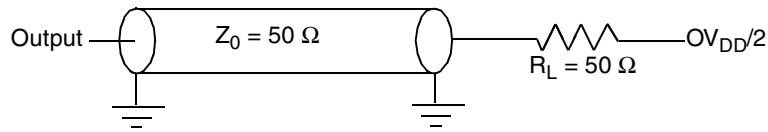

Figure 31. AC Test Load for the JTAG Interface
- All outputs are measured from the midpoint voltage of the falling/rising edge of t_{TCLK} to the midpoint of the signal in question. The output timings are measured at the pins. All output timings assume a purely resistive 50-Ω load (see Figure 31). Time-of-flight delays must be added for trace lengths, vias, and connectors in the system.
- The symbols used for timing specifications herein follow the pattern of t_{(first two letters of functional block)(signal)(state)} (reference)(state) for inputs and t_{(first two letters of functional block)(reference)(state)(signal)(state)} for outputs. For example, t_{JTDVKH} symbolizes JTAG device timing (JT) with respect to the time data input signals (D) reaching the valid state (V) relative to the t_{JTG} clock reference (K) going to the high (H) state or setup time. Also, t_{JTDXKH} symbolizes JTAG timing (JT) with respect to the time data input signals (D) went invalid (X) relative to the t_{JTG} clock reference (K) going to the high (H) state. Note that, in general, the clock reference symbol representation is based on three letters representing the clock of a particular functional. For rise and fall times, the latter convention is used with the appropriate letter: R (rise) or F (fall).
Figure 31 provides the AC test load for TDO and the boundary-scan outputs of the MPC8541E.